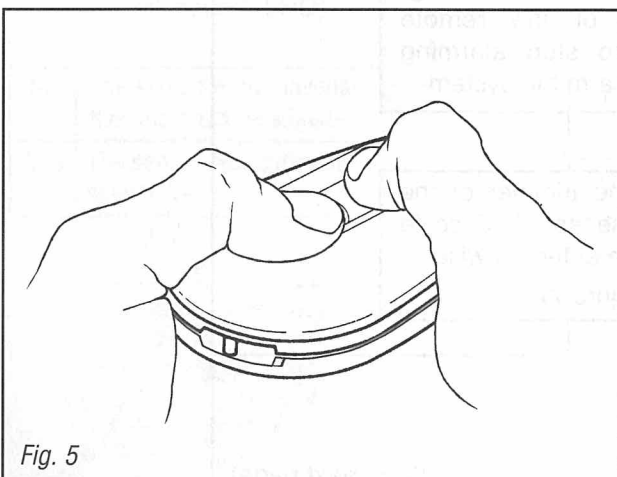

Fig. 5
- 8) Turn the ignition key to "ACC" and push both the "Arming" and "Disarming" button of the remote simultaneously to change to "Valet Mode" (see figure 5).
- 11) Push both the "Arming" and "Disarming" button of the remote control simultaneously to change to "Passive Mode" (see figure 5).